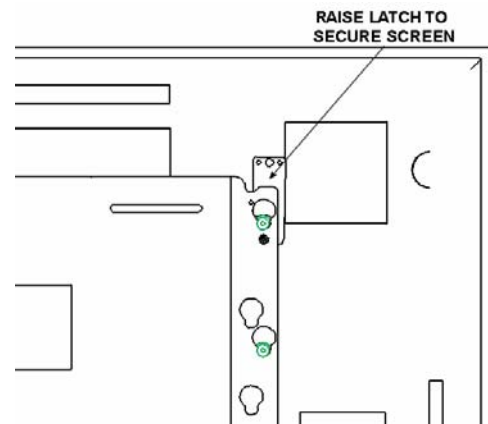

Figure 7
5. Raise safety latch to secure the display (see Figure 7).